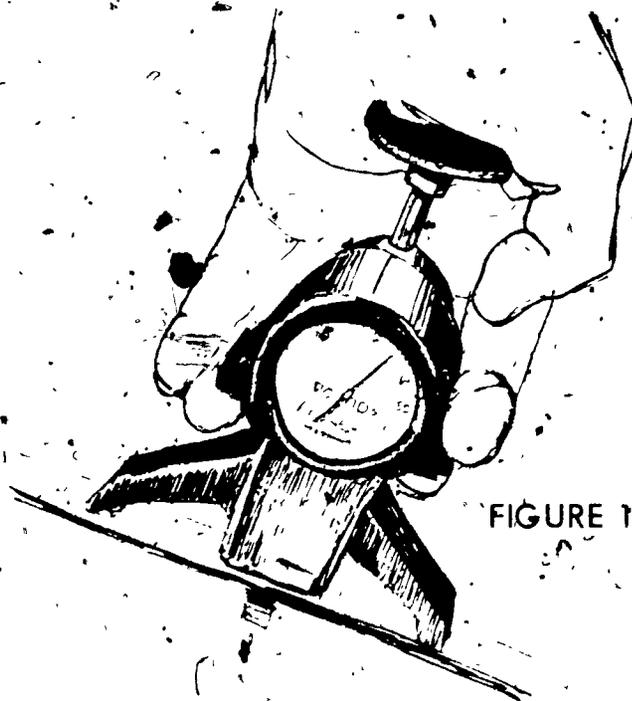

FIGURE 1
- F. Adjust belt tension to manufacturer's specifications (Figure 1)